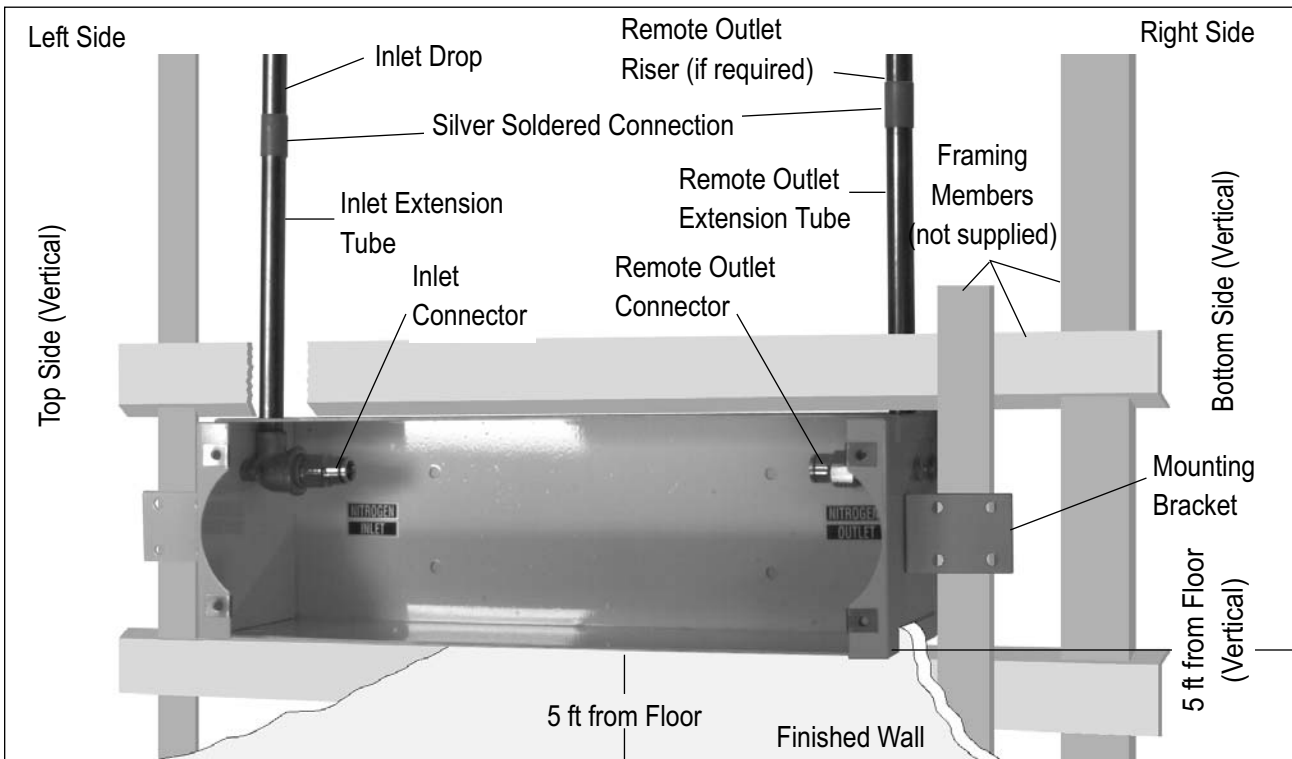

Figure 1
1. Provide rough wall opening of 4-1/2" x 14-3/4" x 3-1/2" deep to accommodate mounting box. Bottom of mounting box shall be five feet from and parallel to floor (Figure 1).
3. Referring to Figure 1, mount inlet extension tube and, if required, remote outlet extension tube into mounting box with provided mounting screws. Silver solder inlet drop to inlet extension tube located on left side of mounting box. Use techniques required by applicable standards specified in NFPA 99 and/or CAN/CSA - Z 305.1.